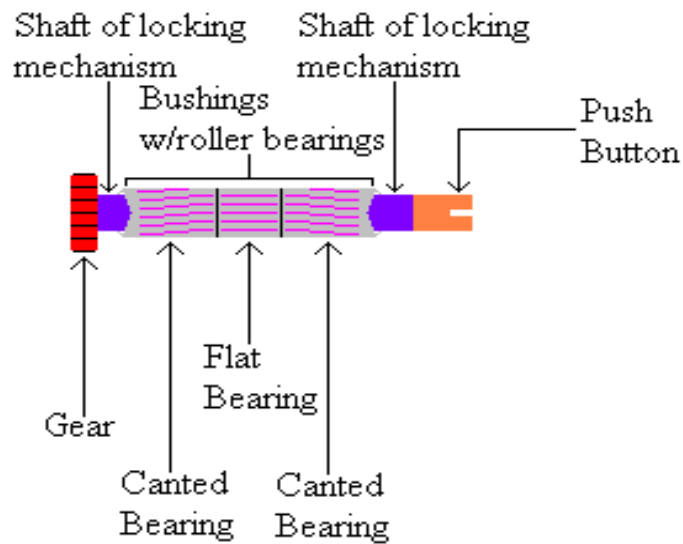

Fig. 11: Gear mechanism and surrounding bushings with roller bearings.
2) Clutch locks (aka. geared lock, pull-in lock, or pull lock): Clutch locks incorporate a one-way gear mechanism to help engage and lock the pin in place. When the pin enters the gear mechanism, the cogs at one end of the mechanism align with the serrations on the pin, similar to how gears on a clock interconnect with one another (Fig. 10). The gear mechanism is encircled by several adjacent bushings lined with roller bearings (aka. linear bearings), or a combination of rotary and linear bearings. These linear bearings allow the gear mechanism to rotate freely in one direction, but disallow rotation in the opposite direction because some of the bearings have canted surfaces (Fig. 11). Since the gear mechanism only rotates in one direction the pin cannot lift from the mechanism until the push/pull button is engaged. This moves the gear mechanism away from the pin.